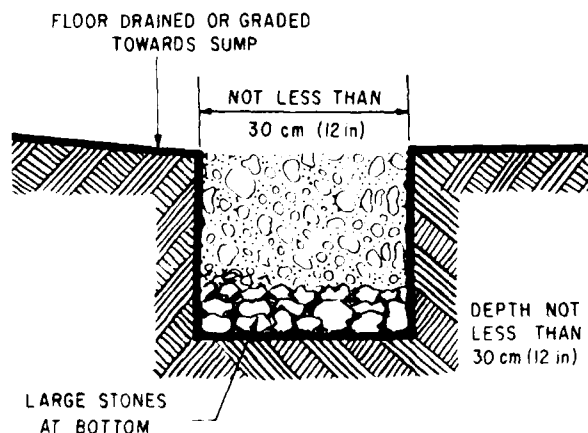
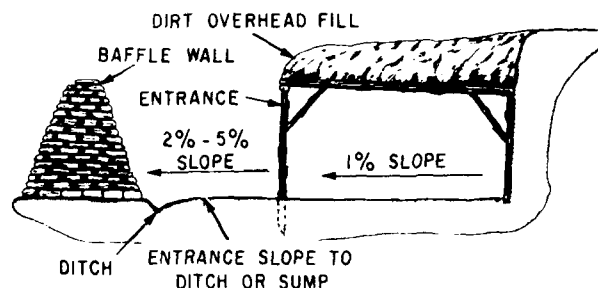

Figure 9-9.—Sump for shelter drainage.
Figure 9-10.—Floor and entrance drainage.
**DRAINAGE** is an important consideration particularly in cut-and-cover and cave shelters. After the shelter is dug, drainage work usually includes keeping the surface and rain water away from the entrance, preventing water from seeping into the interior by ditching, and removing water that has collected inside the shelter. The floors of shelters must have a slope of at least 1 percent toward a sump (fig. 9-9) near the entrance, while the entrance should be sloped more steeply toward a ditch or sump outside the shelter (fig. 9-10).